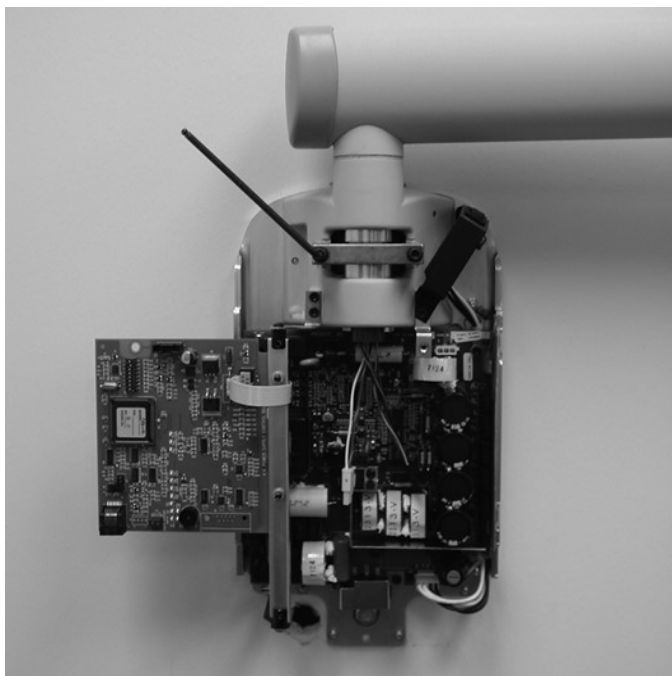

Figure 99
5. Using a 4 mm Allen wrench, as shown in *Figure 99*, tighten the screws equally to apply adequate braking to the pivot post so that Horizontal Arm begins to move after the Articulating Arm.